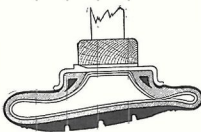

FIG. NO. 2
Figure No. 2 shows a cross sectional view of the tire at the moment of impact. This will illustrate the manner in which tire is damaged by being crushed between the rim and the pavement.
3. If too much force seems necessary when prying the bead over the flange, this is indication that the bead is not down in the well on the opposite side of the rim, see Fig. No. 2. Inside of each tire bead, there is a hoop of wire which must not be broken or unnecessarily strained.
Force inside bead down into well at top of rim, see Fig. No. 2.
Stand wheel in upright position with bead in well of rim at bottom, see Fig. No. 2, and apply soft soap around both sides of the soft rubber tip.